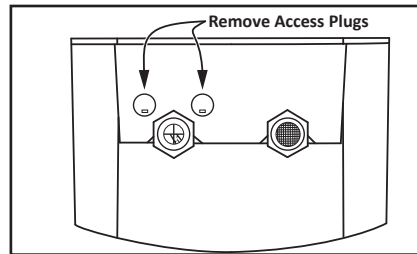

Figure 10 - Removing access plugs.
- 5 Remove the top two access plugs located next to the outlet nipple with a flat head screwdriver. See Figure 10.